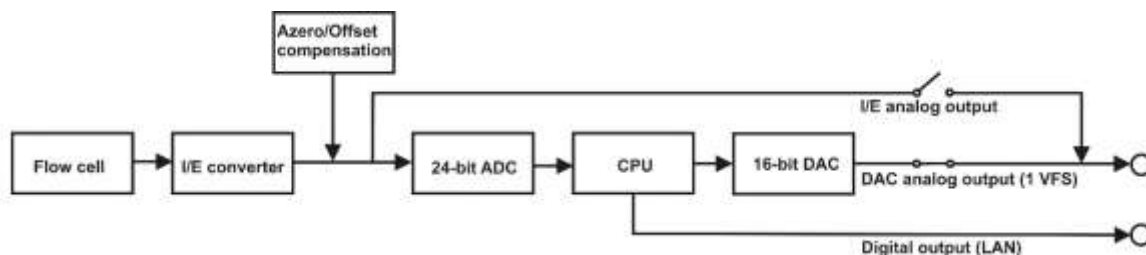

Fig. 12. ROXY Exceed signal processing from EC flow cell to output.
At the working electrode (WE) in the electrochemical flow cell the electron transfer takes place due to an oxidation or reduction reaction. The resulting electrical current is amplified by the current-potential (I/E) converter (Fig. 12).
The Autozero function can be used to set the output voltage of the I/E converter (signal) to 0 Volt. This is done by means of a compensation amplifier in the analog measurement circuitry, see Fig. 12. This compensation circuitry enables the possibility to measure small current signals (analyte peaks) in a sensitive range even if the background cell current is high. For example with a background current of 20 nA one can still do measurements in the 1 nA range, because the maximum compensation for that range is 25 nA.